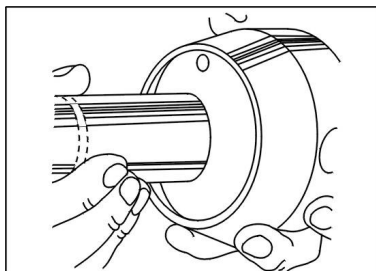

Figure 2. Removing the Coalescing Tube
3. Remove the entire Service Module by simply pulling the Coalescing Tube (whilst intact) from the Cap of the Filter. See figure 2.